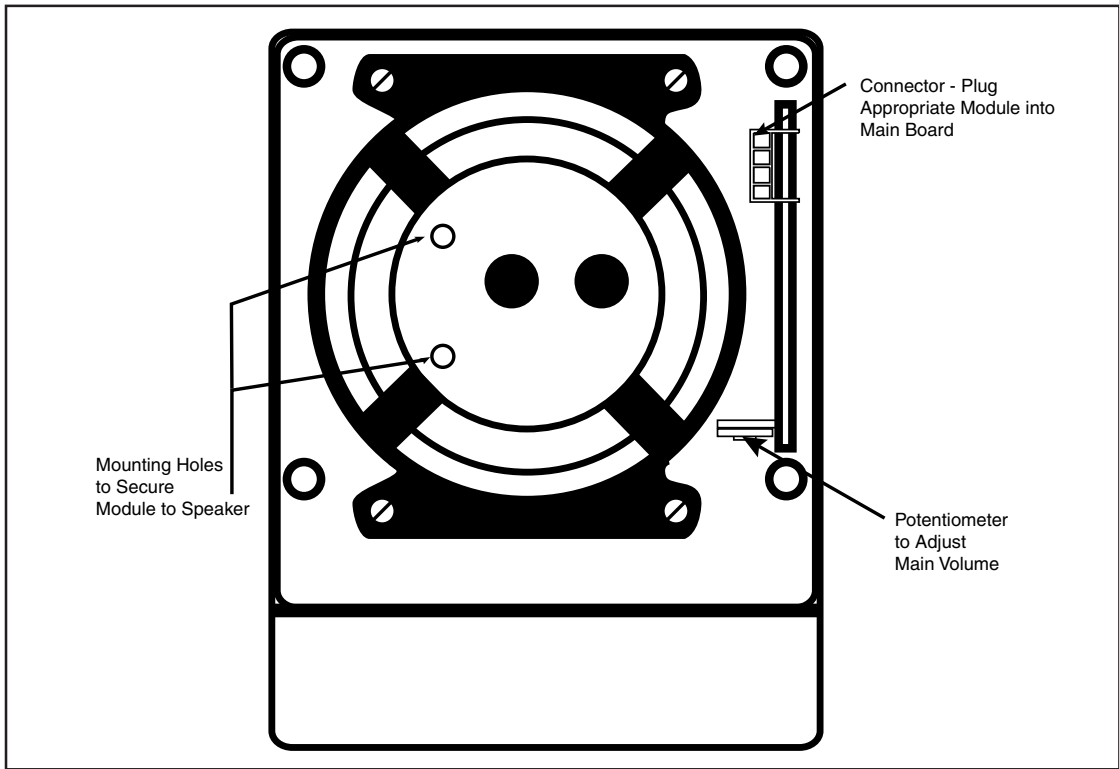

Figure 1. Mini-Mi Housing
- Remove (2) screws holding pc board to speaker in the Mini-Mi housing and remove pc board. (See Figure 1.)
- Insert appropriate module, plugging it into the main board. Secure to speaker using screws removed in step 2. (See Figure 1.)